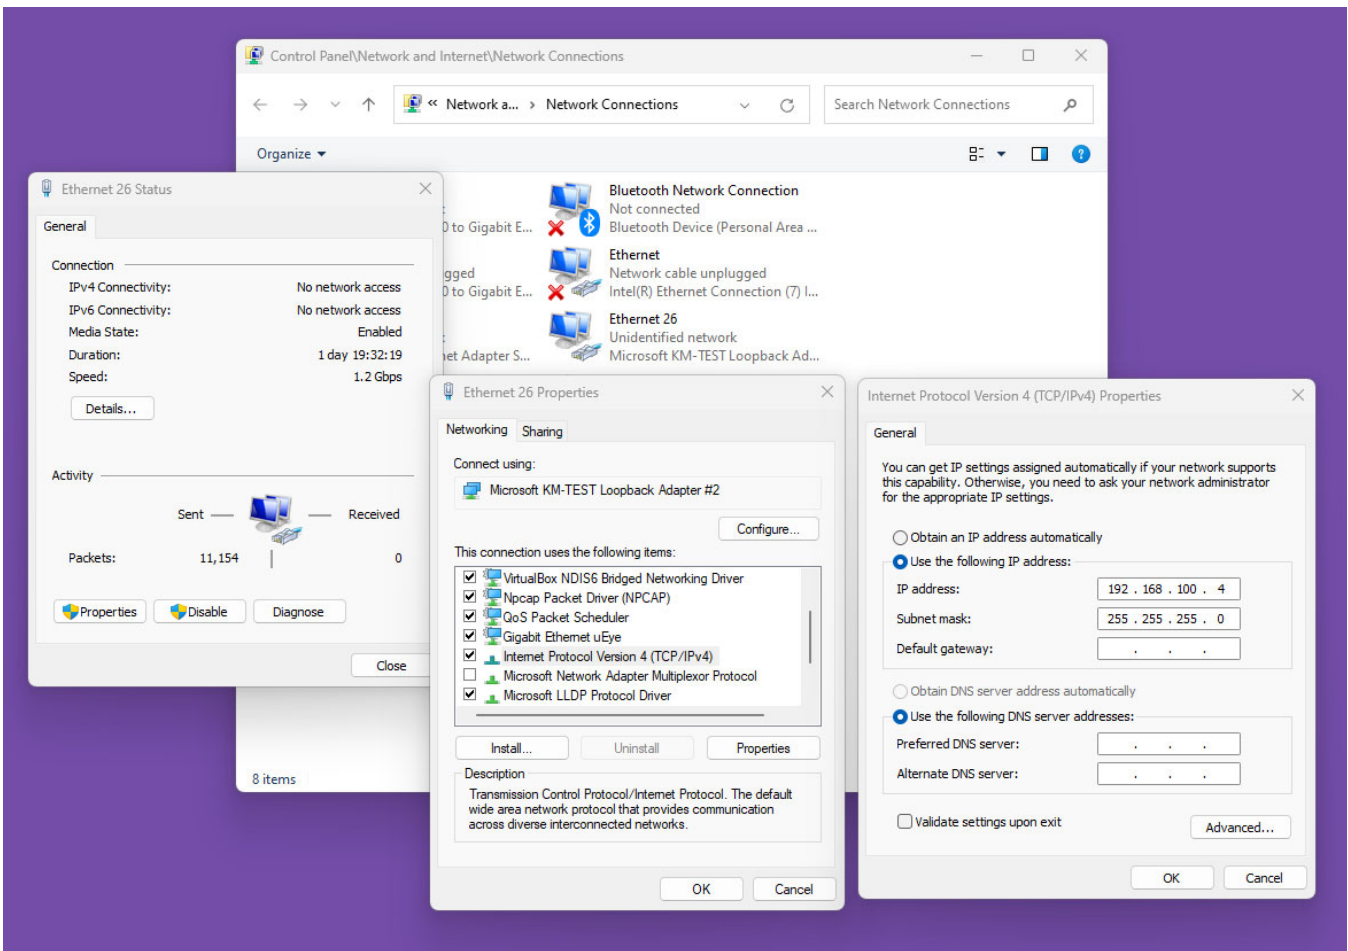

Figure 390: Computer Local Area Adapter Settings
4. Change the appropriate Local Area Adapter settings on the computer to connect to the scanner. See Figure 390 on page 365.